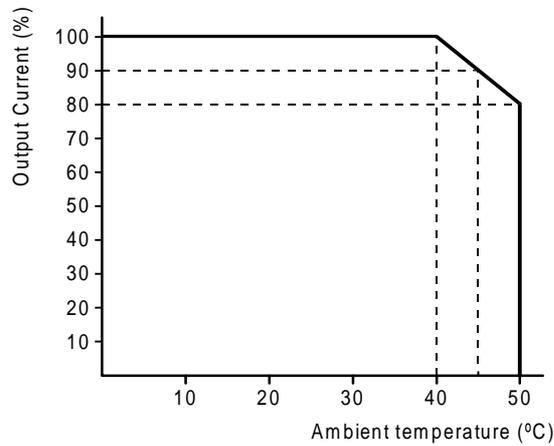

Fig. 1-1 Derating according to ambient temperature
- Note 4)** When 40°C is exceeded, derate the output current by 2% for each 1°C. (Refer to Fig. 1-1.)